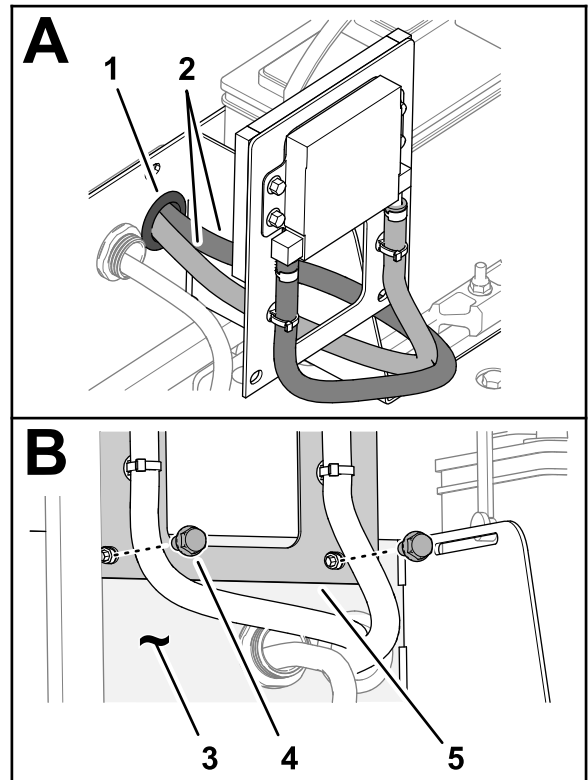

Figure 12
2. Assemble the 2 fuel hoses of the fuel cooler through the grommet in the radiator bracket (Figure 12).
3. Align the hoses in the fuel-cooler bracket with the holes in the radiator bracket (Figure 12).
4. Secure the fuel-cooler bracket to the radiator bracket (Figure 12) with the 2 capscrews (5/16 x 5/8 inch).